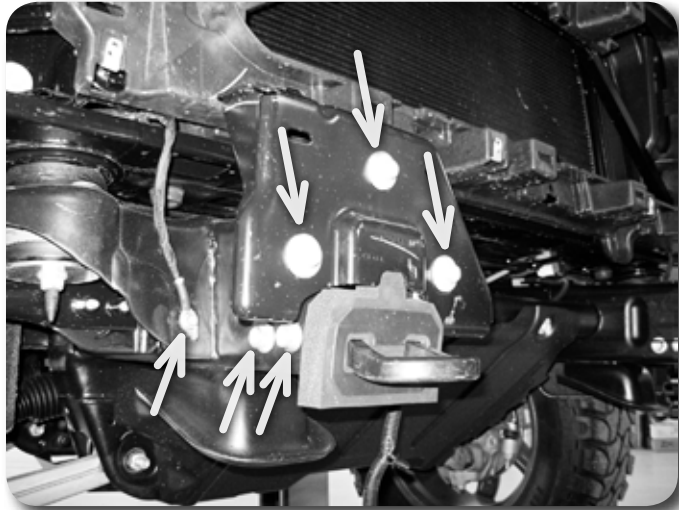

Figure 9
10. Make a small mark on each tow hook to indicate which side is up. Remove the tow hooks from the frame by removing the two (per hook) mounting bolts and plastic/foam covers. **Figure 9** Save the mounting hardware and hooks.
11. Note the orientation and remove the factory front bumper brackets from the frame horns **Figure 9**. Save all hardware.
21. Reattach the ground wires that were removed from the front body mounts **Figure 9** below the core support. Torque bolt to 15 ft-lbs.